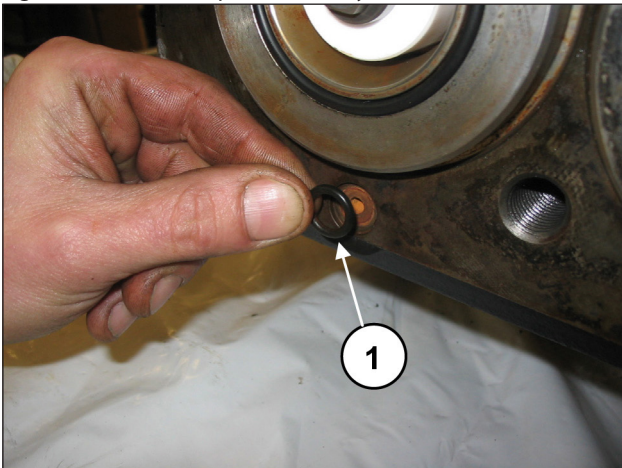

Fig. 171
Mount the recirculation hole O-ring (pos. ①, Fig. 171).